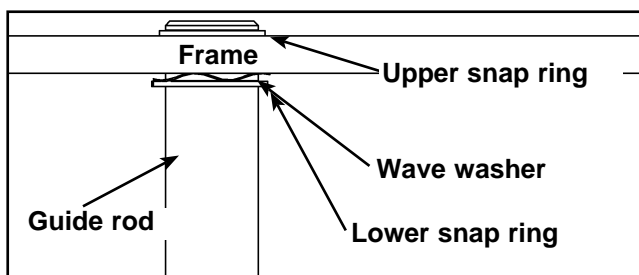

Figure 8
- C. Using an external snap ring pliers, remove the upper snap ring from one of the guide rods and carefully lower the guide rod. See Figure 8.